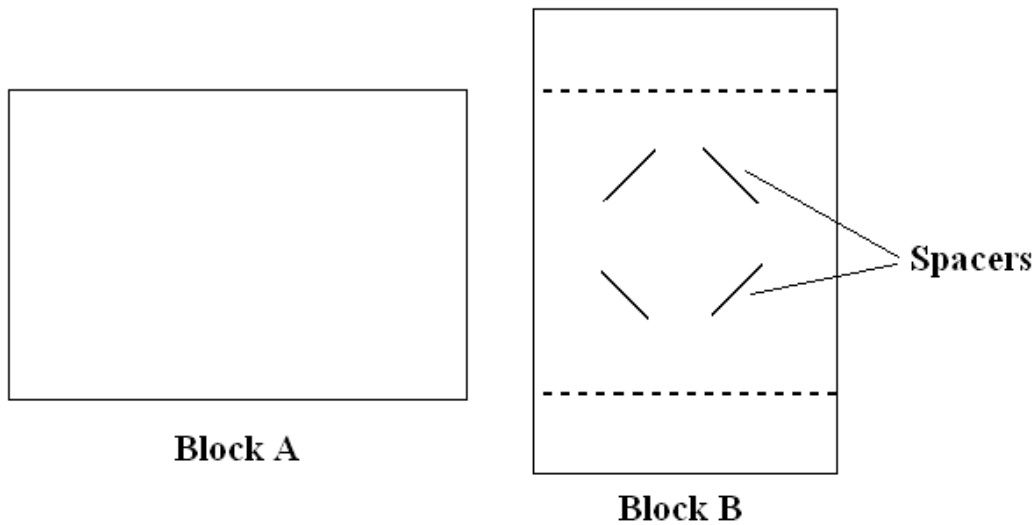

Figure 1—Mortar Blocks with Spacers
- 3.1 Place two mortar blocks opposing each other perpendicular on a flat surface. (See Figure 1.)
- 3.2 Place four stainless steel spacers on block B, as shown in Figure 1.
- 3.3 Using the disposable plastic syringe or by pouring, apply a continuous 50.8-mm (2-in.) wide layer of asphalt emulsion on block B (dashed lines in Figure 1). The layer of emulsion must be thick enough to cover the spacers.